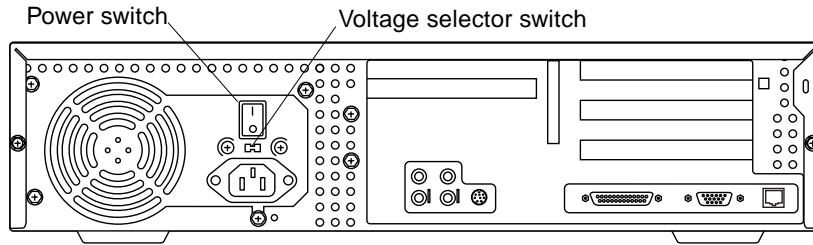

FIGURE 5-4 System Power Switch
3. Set the system power switch to the off position (FIGURE 5-4).